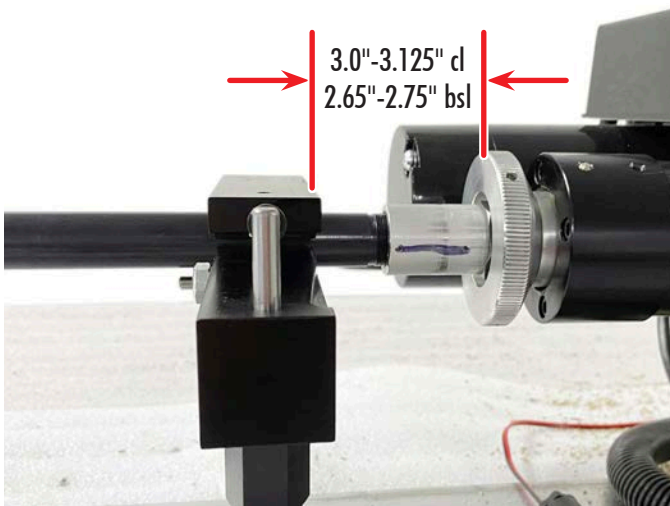

FIGURE 19
- ii. If you are mounting the bar feeder on your own work surface, the centerline of the mounting holes for the chucker lathe should be 3.0"-3.125" (76 mm-79 mm) from the end of the LCC draw bar knob to the front of the mounting assembly (see Figure 19). The ball screw lathe dimensions are 2.65 to 2.75 (67.3 mm to 70.0 mm). See bar feeder base dimensions at the end of these instructions.